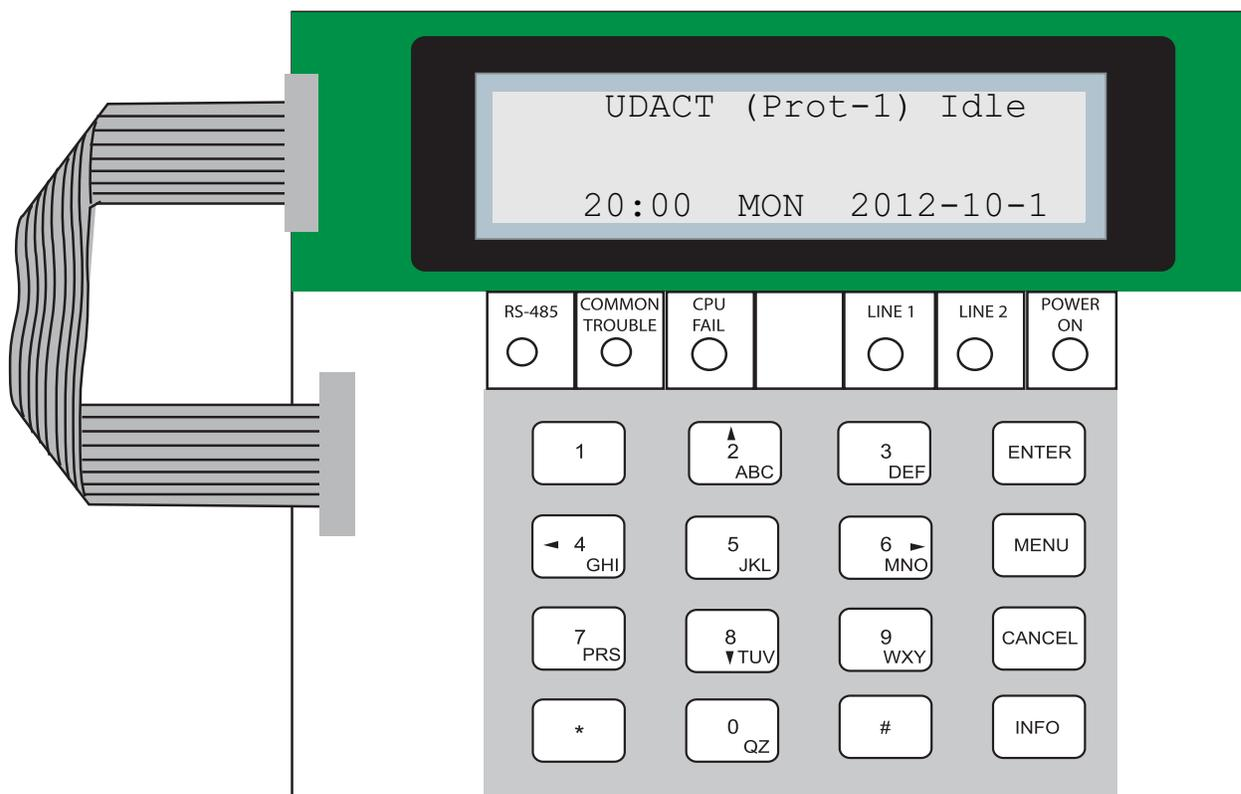

Figure 6 UDACT-300A Configuration
**To access configuration mode press the Menu button on the front panel display.** The CFG-300 LCD will display the Main Menu. The keypad on the UDACT-300A board and the CFG-300 is shown together in Figure 6, below.